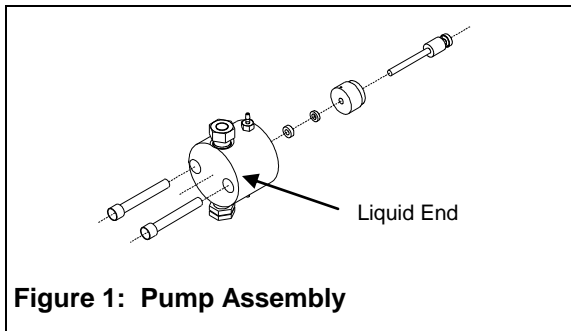

Figure 1: Pump Assembly
3. Remove liquid end from pump as follows: Unscrew the two 5/32" socket head bolts. Pull the liquid end straight out from the pump housing, in line with the axis of the piston. If you cock or tilt the liquid end, you may break the piston. See Figure 1.
13. Reinstall the liquid end on the pump. See Figure 1. Make certain the holes in the retainer/wash line up with the wash ports with the barbed fittings.